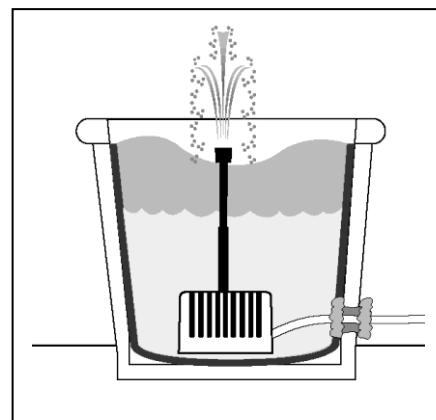

Fig. 8
8. Test fit the assembled container fountain kit in the container. Fill the container with water, 2/3 up to the top. Fig. 8